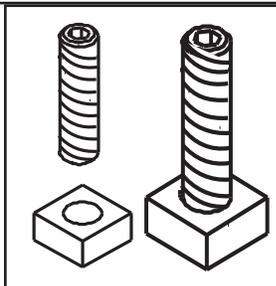

Figure 24.2
8. Thread Allen bolts through nuts until flush (**Figure 24.2**)